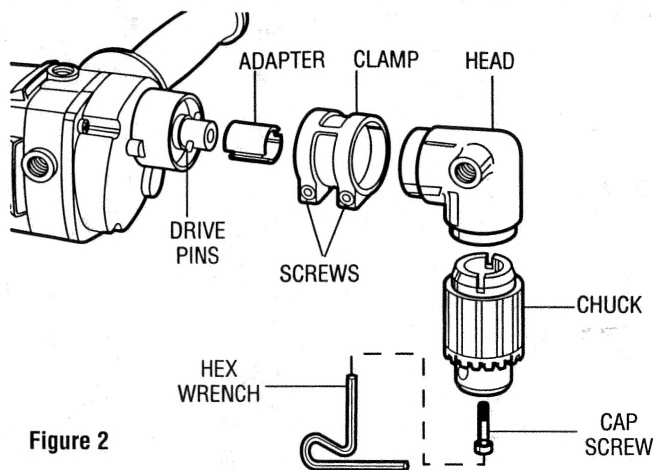

Figure 2
2. Loosen the forward clamping screw on the right angle head clamp, shown in Figure 2, using the hex wrench provided. NOTE: It may be necessary to loosen both clamp screws.